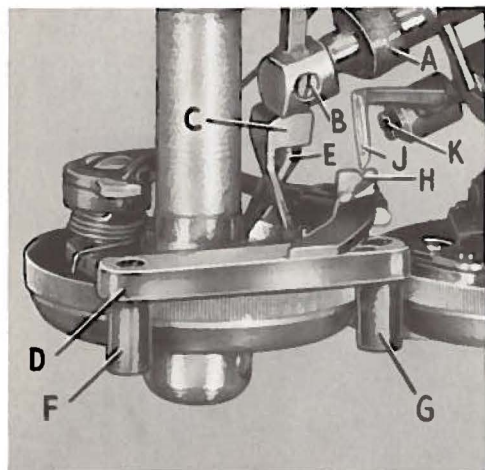

Fig. 10
Set the looper so its point is directly over the center line of the needle and is flush with the back edge of rear prong (B) of gauge. These two settings are made by loosening the screw on the looper bar collar (A, Fig. 10) and moving looper holder as required.
The operating location of the back looper is set according to gauge No. 21227 CD (D, Fig. 10).